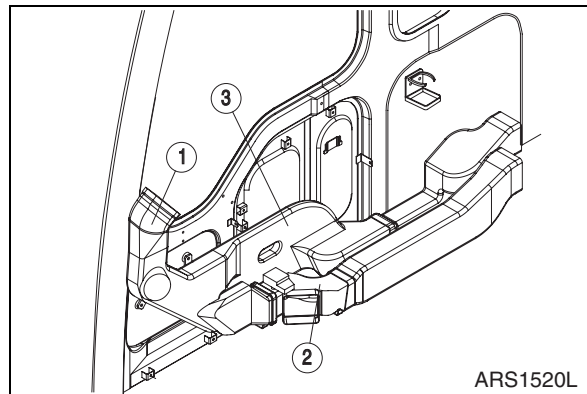

Figure 12
14. Install air duct (3, 2 and 1, Figure 12) at right side of cab.
NOTE: *Connect wire connector of duct (2, Figure 12).*